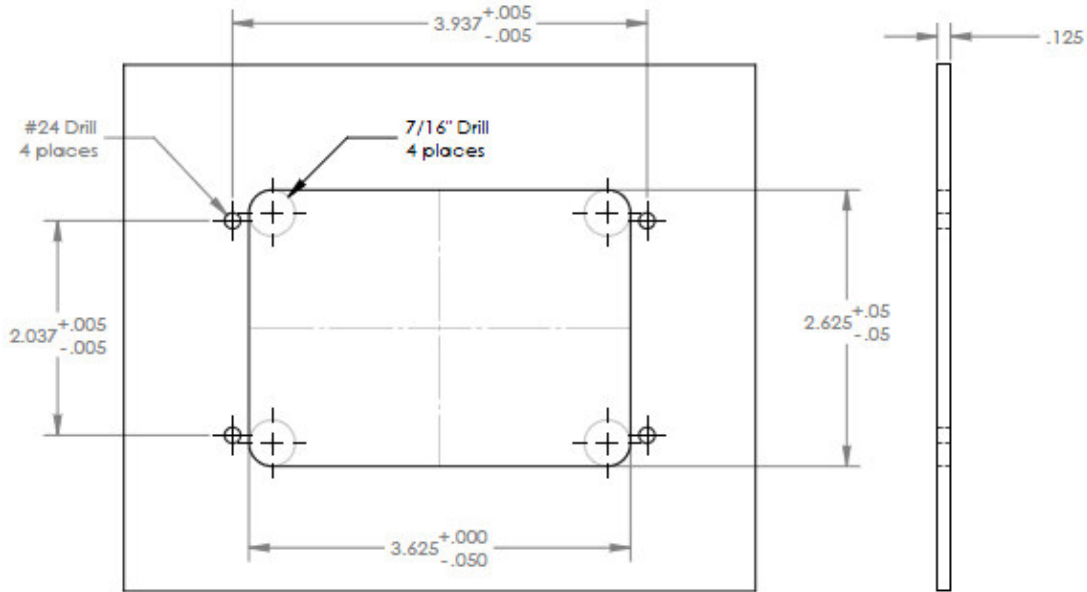

Figure 21-1 Panel mounting cutout dimensions
1. Prepare the installation location with the panel cutout. Please refer to Figure 21-1 for panel cutout dimensions.